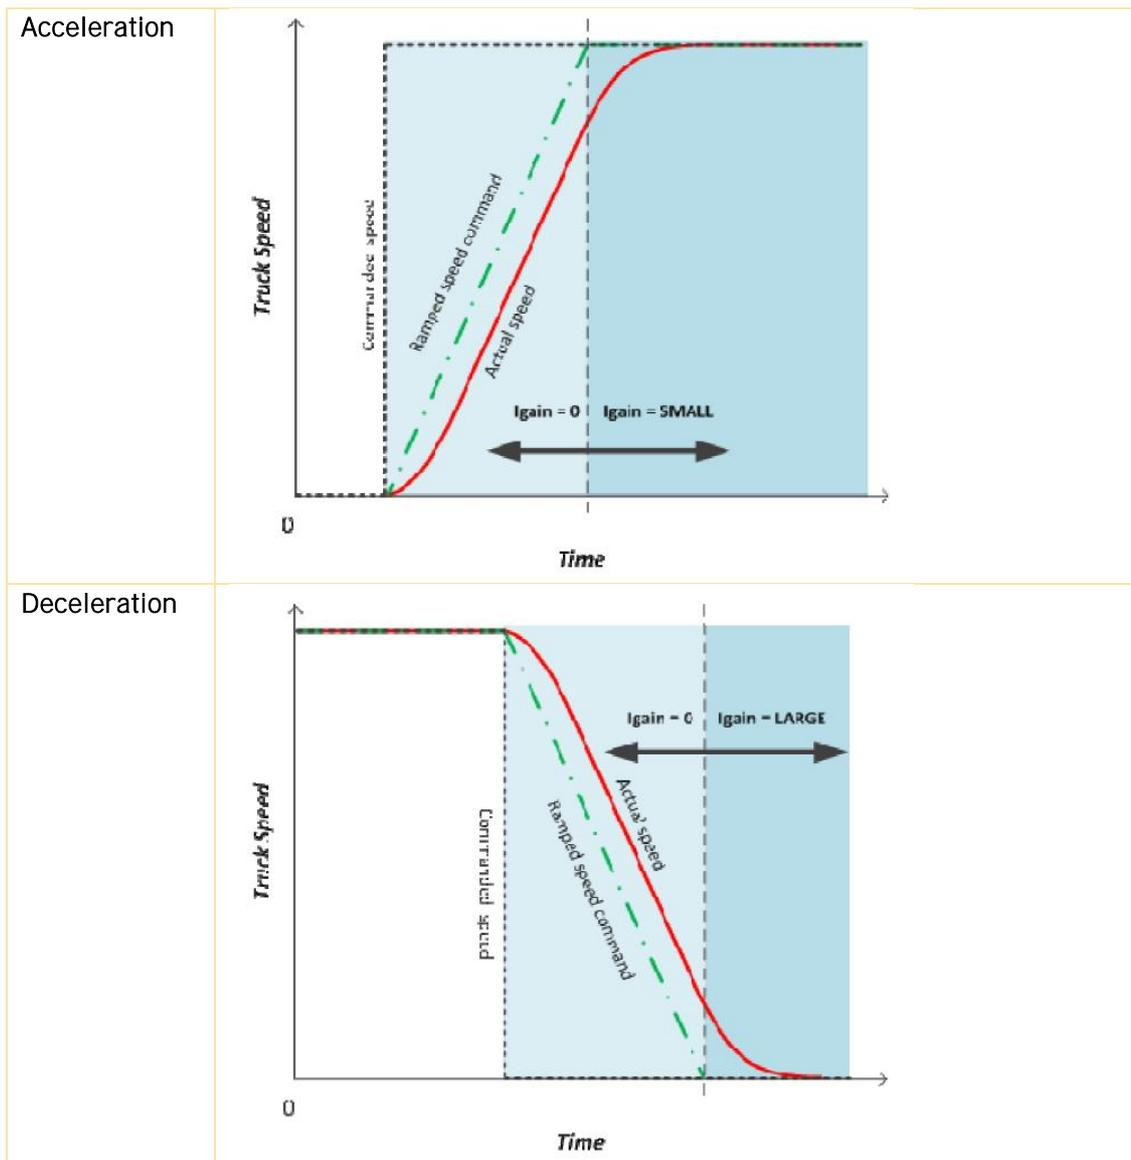

Figure 24 Use of I-gain during a typical acceleration and deceleration phase. This is valid only for SpeedRamp mode set to 4 or 5
- Speed PI Controller I-gain (Small, Medium and Large) Set 0-3 (2091h-2093h:1-4): The I-gain is typically used to increase sensitivity to small changes in operator controls when at or near zero speed. I-gain, in combination with P-gain, is beneficial for holding zero speed or to overcome friction when starting. Excessive I-gain can cause the motor/load to break into oscillation. I-gain should not be introduced until P-gain has been adjusted and the motor/load exhibits stable operation. It should be observed that there are three I-gains (Small, Medium and Large) that are used in PDO and Parameter Controlled Ramp modes. Table 12 explains during which operating conditions the Small, Medium and Large I-gain, respectively, are used. In Figure 24 it is visualized how the different types of I-gains (Small and Large) are working during a typical acceleration and deceleration phase.
Figure 24 shows how the ramping of internal speed reference and changing speed controller integral gains typically is done during acceleration and deceleration.